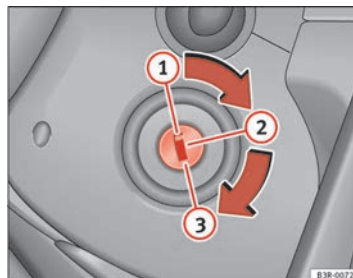

Fig. 148 Ignition key positions
- Turn the ignition key to position ① ⇒ page 172, fig. 148.